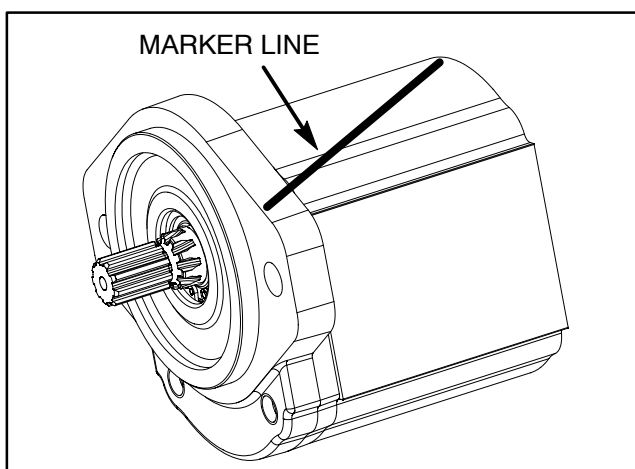

Figure 39.2
2. Use a marker to make a **diagonal** line across the front flange and body for assembly purposes (Fig. 39.2).